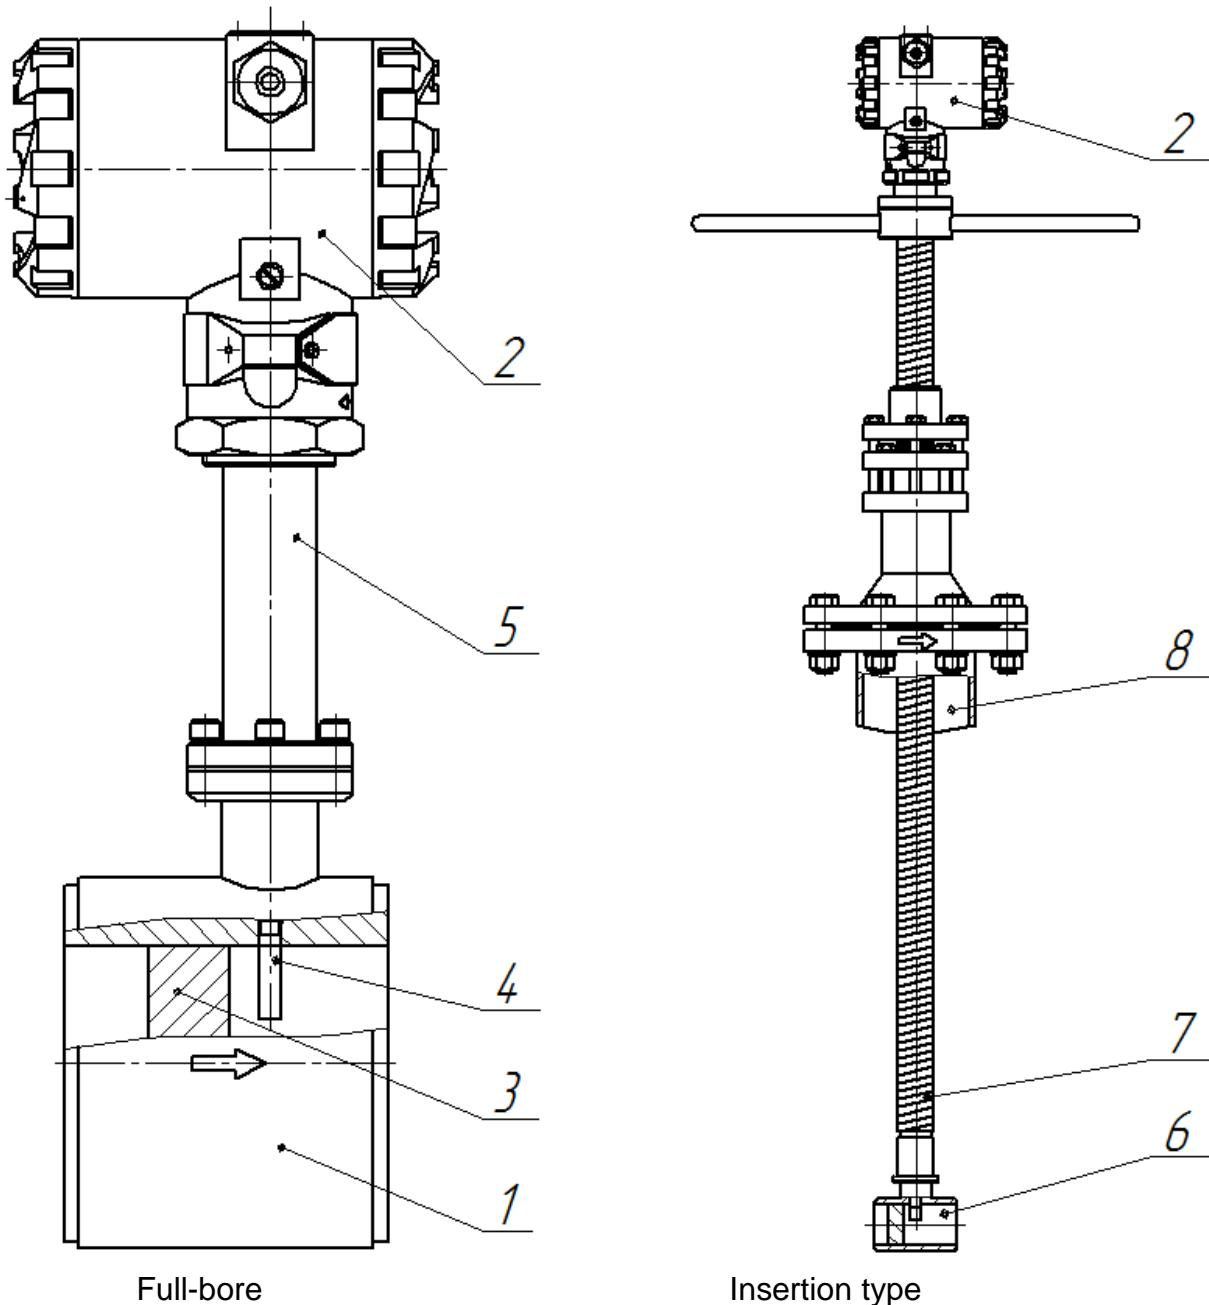

Figure1.2 - Flow meter structure
Full-bore transmitter (see fig.1.2) consists of flow tube (1) and electronic transmitter unit(2). Flow tube is a hollow cylinder with bluff body installed in cross-sectional area (3). Sensor (4) is installed behind the bluff body.
Full-bore transmitter (see fig.1.2) consists of transmitter (6), support bar (7), weldneck (8) and transmitter (2). Sensor structure of insertion type flow meter is the same as of the full-bore and measures flow velocity at a single point.